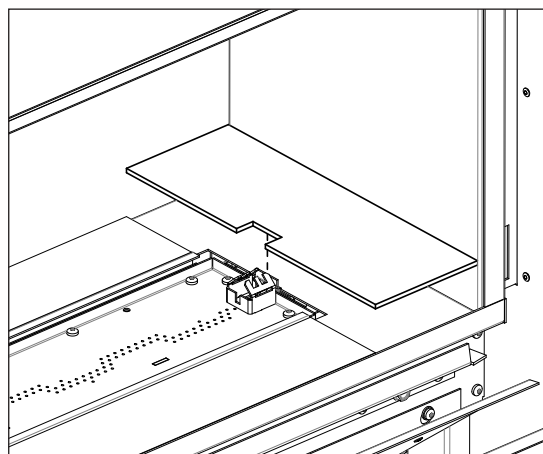

Figure 62 Bezel Placement Around Pilot
3. Ensure that the short, notched bezel is placed around the pilot assembly as shown in Figure 62.